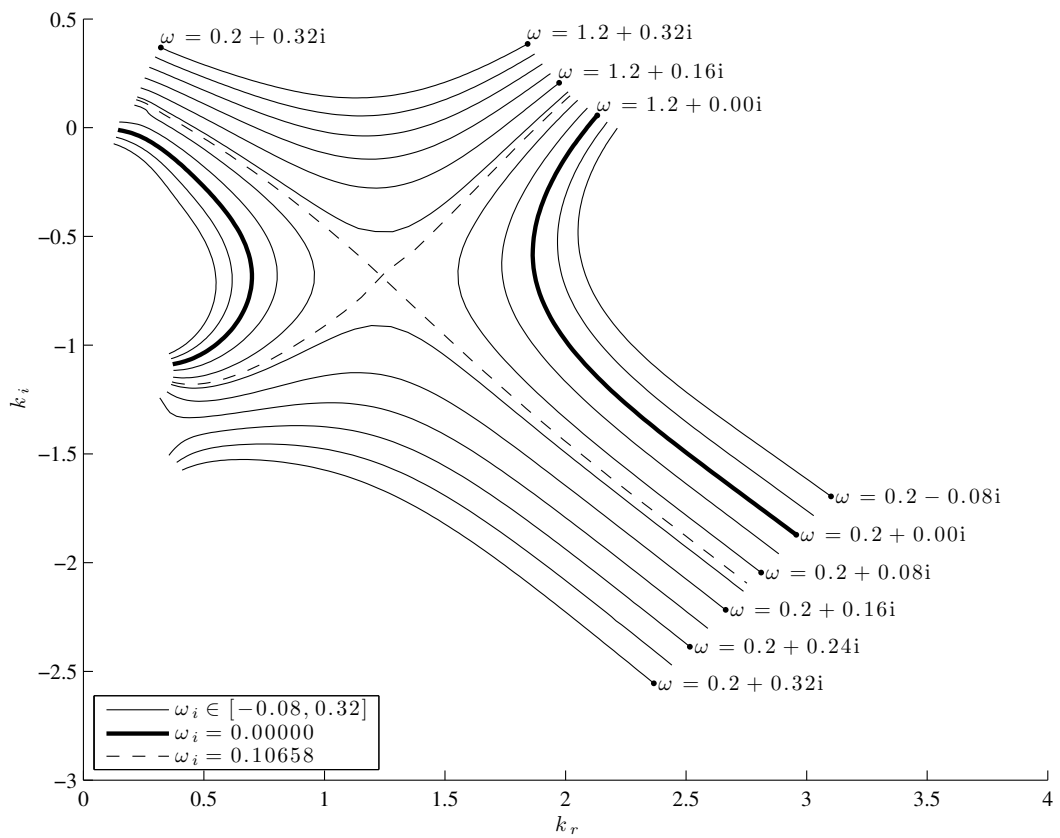

Fig. 4
Copy of figure 4.*
4 Figure 4 shows the velocity field, $\mathbf{U}(x, z)$, around a cylinder at $\text{Re} = 50$. A local stability analysis is performed on the velocity profile at $x = 1.33$. In this analysis, permitted pairs of (k, ω) are calculated for perturbations of the form $\mathbf{u}(z) \exp\{i(kx - \omega t)\}$. Figure 4 shows the contours of $\omega_i(k)$.
- (a) (i) Using figure 4 as a guide, sketch the result of a temporal stability analysis applied to this flow. On the attached copy of figure 4, indicate the value of k at which the temporal growth rate is a maximum. [10%]
- (ii) On the attached copy of figure 4, indicate the value of k at which the group velocity is zero. Is the flow stable, convectively unstable, or absolutely unstable? [10%]
- (iii) Using figure 4 as a guide, sketch the result of a spatial stability analysis applied to this flow. Explain why a spatial stability analysis has no physical meaning for this flow. [20%]